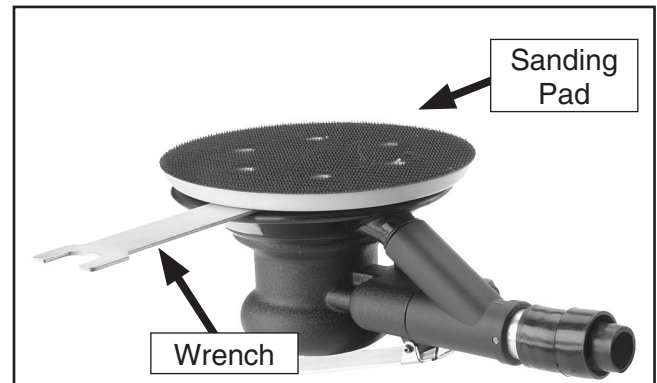

Figure 6. Wrench inserted onto spindle.
2. Insert the included wrench onto the spindle as shown in **Figure 6**.